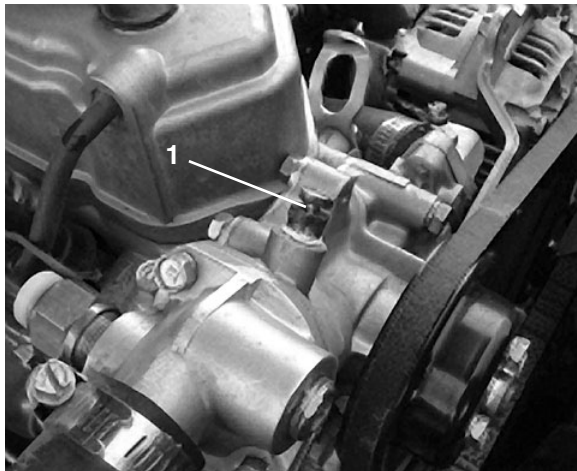

Figure 44
5. Open bleed screw on top of water pump (Fig. 44).